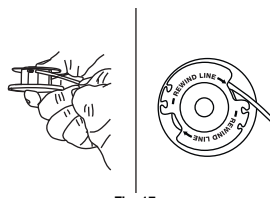

Fig. 17
4. Take approximately 12 feet (3.6 m) of new trimming line and insert one end of the line into the hole at the top of the inner reel (Fig. 17).
5. Wind the line, in even and tight layers, onto the reel (Fig. 17). Wind the line in the direction indicated on the inner reel.
6. Insert the end of the line into one of the holding slots (Fig. 17).